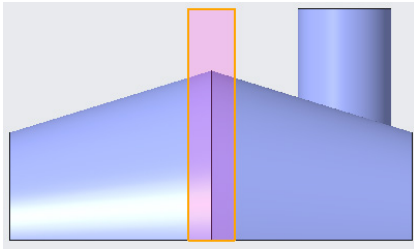

Figure 15-124 Sketch of the fill surface
5. Choose the **Project** button and select the edges of the base feature. Create a line to join the ends of base feature; the sketch is completed, as shown in Figure 15-124.